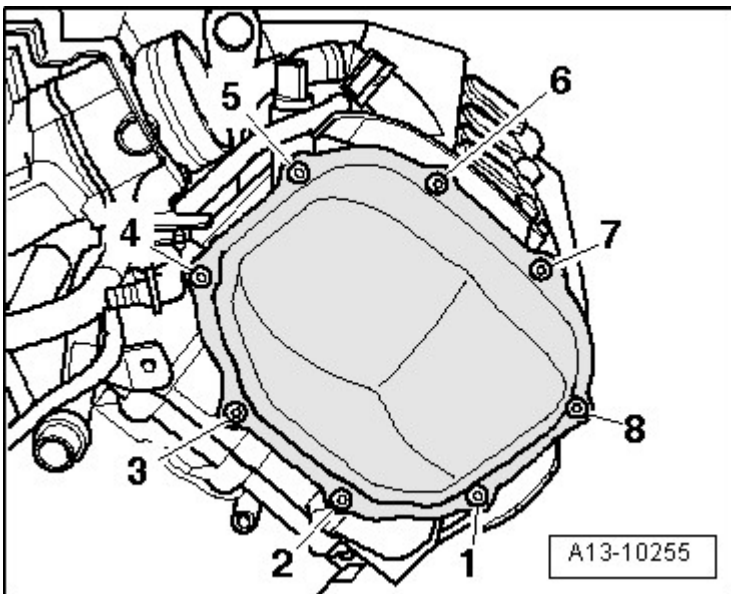

Fig. 13: Identifying Sequence Of Right Timing Chain Cover Bolts
- Tightening specification and sequence, refer to **Fig. 13**